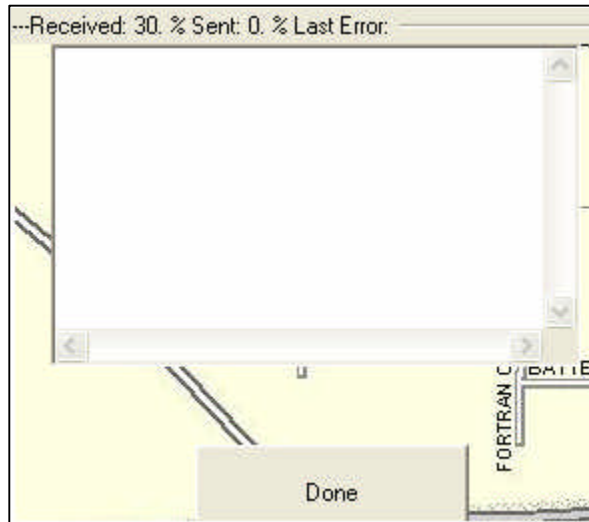

Figure 32. Shutdown text box
- A text box (Figure 32) will pop up displaying the communication between the aircraft and ground station during the shutdown procedure.